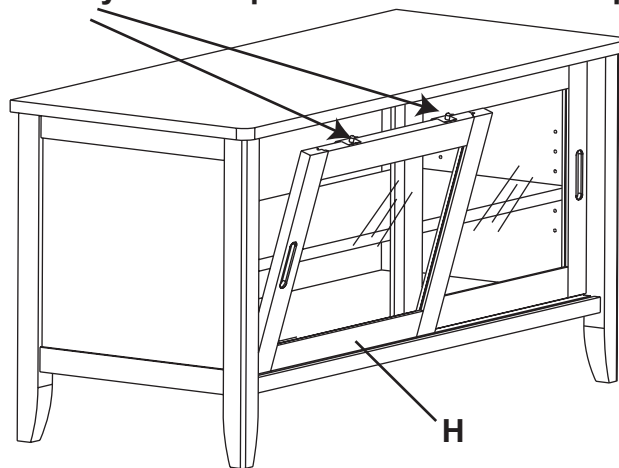

Fig. 11
11. To install the Left Door Assembly (H), press down on the buttons of the Upper Door Glides (M). Place the rollers of the Lower Door Glide (L) into the bottom **front** track on the Bottom Assembly (F). Gently push the top of the Left Door (H) until the Door is aligned with the upper front track. Reach into the unit and push up on the release button on the left side of the Upper Door Glide (M). Slide the installed and locked Right Door (I) to the left and reach into the unit. Push up on the release button of the Upper Door Glide (M) on the right side so that the pin is locked. See Figure 11.